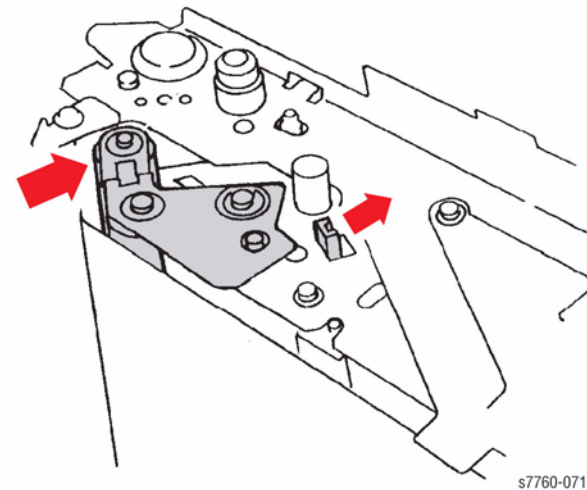

Figure 6 Relaxing Belt Tension
9. Relaxing the Belt Tension (Figure 6).